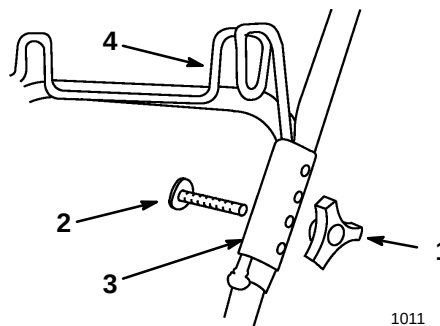

Figure 40
9. Remove the knob and bolt securing the left side upper and lower handle sections (Fig. 40).
10. Hold a hanger clamp on the outside of the handle sections, and insert a bolt from the inside of the handle sections through the holes in the hanger clamp (Fig. 40).
11. Position the bag hanger leg into the hanger clamp groove and secure it with a knob (Fig. 40).
- Remove the bolts and knobs securing the hanger clamps to the handle sections (Fig. 40).